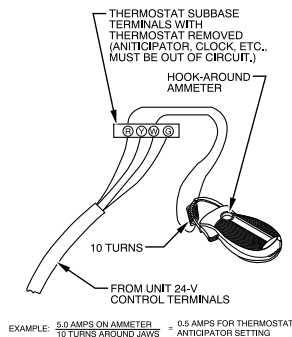

Fig. 52 – Amp. Draw Check with Ammeter
- (3.) Connect an amp. meter across the R and W subbase terminals or R and W wires at wall. (See Fig. 52.